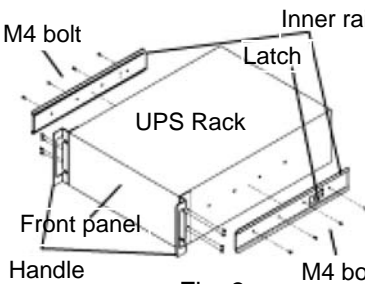

Fig. 3
- (3) Fix the handle and inner rails to both sides of the RACK using 16 M4 bolts, with the lock latch on the inner rail facing the rear of the RACK, as shown in Fig.3.